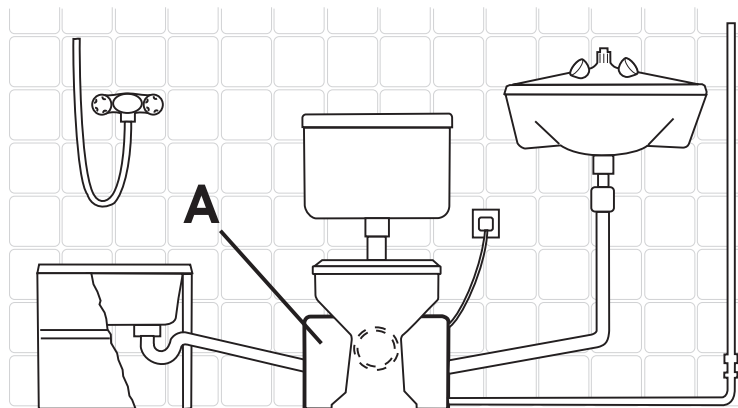

Fig. 1
- 1.1 Decide on the location of the Powerflush™ (A). The unit is designed for a direct toilet connection and so should be positioned behind the toilet on a firm level surface resistant to any condensation. (See Fig. 1)